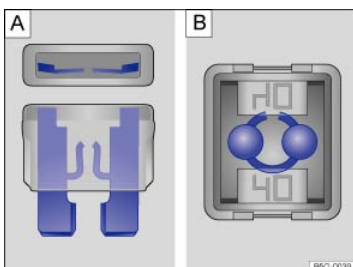

Fig. 173 Blown fuse: : Blade fuse. : JCASE® fuse.
- For blade fuses (ATO®, MINI®): Remove the fuse and shine a flashlight on it. This makes it easier to tell if the fuse has blown. A blown blade fuse has metal strips that have burned through, which you can see through the transparent housing from above and from the side ⇒ Fig. 173 A.
- For cartridge fuses (JCASE®): Shine a flashlight on the fuse. This makes it easier to tell if the fuse has blown. A blown cartridge fuse has metal strips that have burned through, which you can see through the transparent housing from above ⇒ Fig. 173 B.